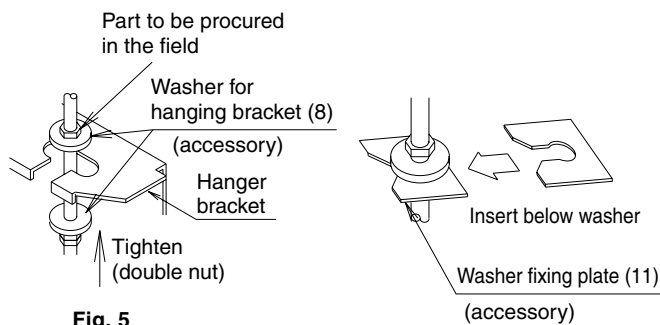

Fig. 5
(1) Install the indoor unit temporarily.
- Attach the hanger bracket to the suspension bolt. Be sure to fix it securely by using a nut and washer from the upper and lower sides of the hanger bracket. **(Refer to Fig. 5)**